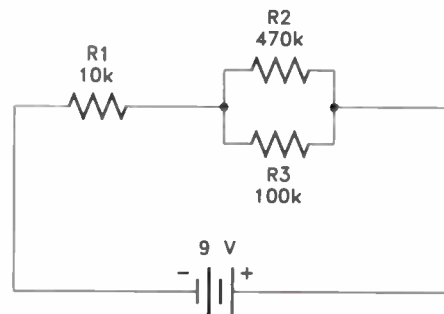
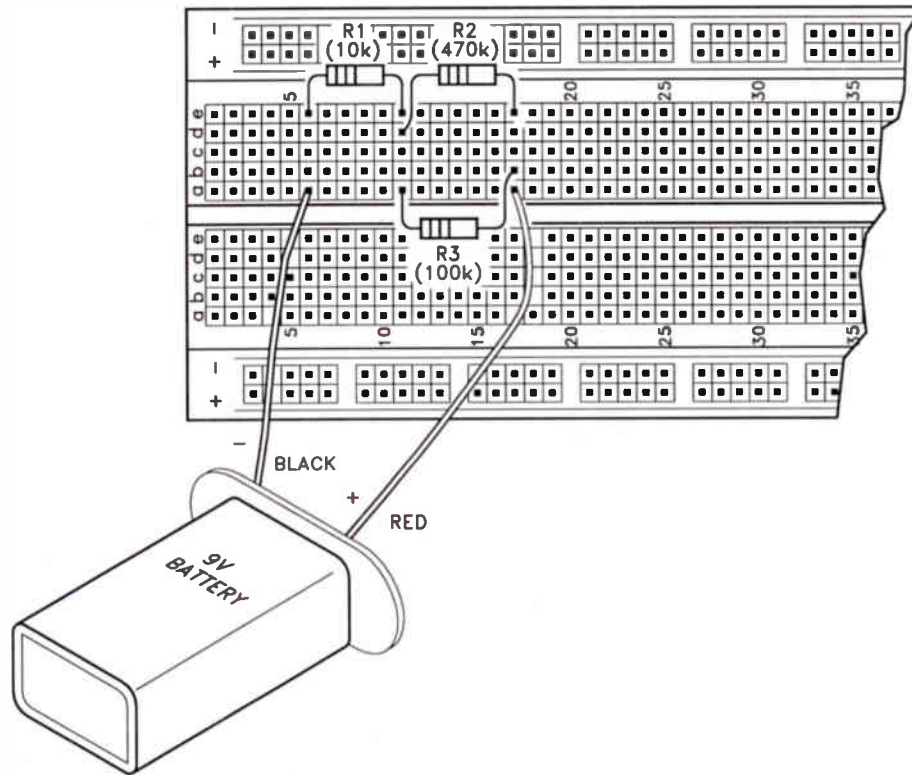

Figure 1-4. Kirchhoff's voltage law also applies to combinational-combinational circuits.
Figure 1-5. An illustration of the circuit for Step 3.
Step 5. Wire the circuit shown in Figures 1-4, on the next page, on your breadboard socket. Be sure to connect R2 in parallel with R3, and one end of R1 to the junction of R2 and R3. A pictorial is provided in Figure 1-5, on page 9.